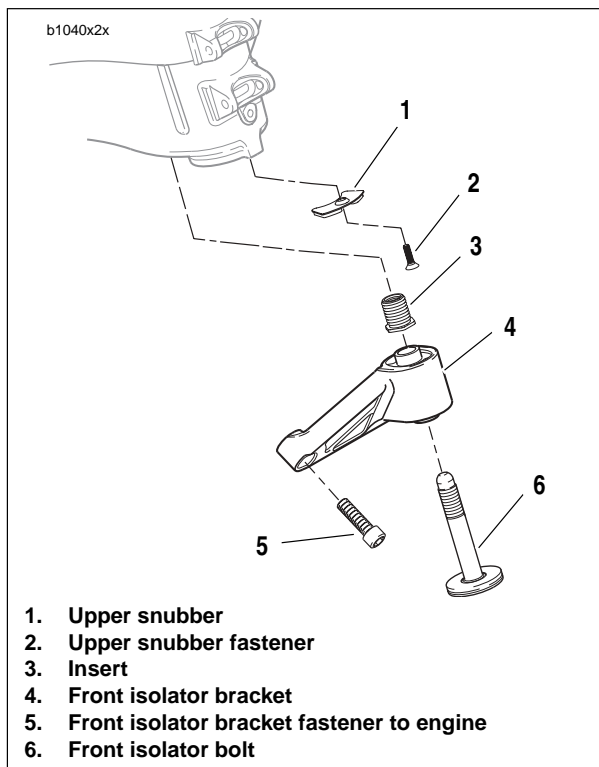

Figure 2-86. Front Isolator
3. See Figure 2-86. Remove front isolator bolt (6).
4. Remove front isolator mount fasteners (5).
5. Remove front isolator bracket (4).
6. Remove upper snubber fastener (2) and remove upper snubber (1).
1. See Figure 2-86. Install upper snubber (1) tightening snubber fastener (2) to 12-36 **in-lbs** (1-4 Nm).
2. Loosely install front isolator bracket (4) with front isolator bolt (6).
3. See Figure 2-86. Install front isolator bracket fasteners (5), and tighten to 49-51 **ft-lbs** (66-69 Nm).
See Figure 2-86. If the threaded insert (3) is damaged and needs to be replaced, install new insert with **LOCTITE 271** (red) and tighten to 59-61 **ft-lbs** (80-82.7 Nm).